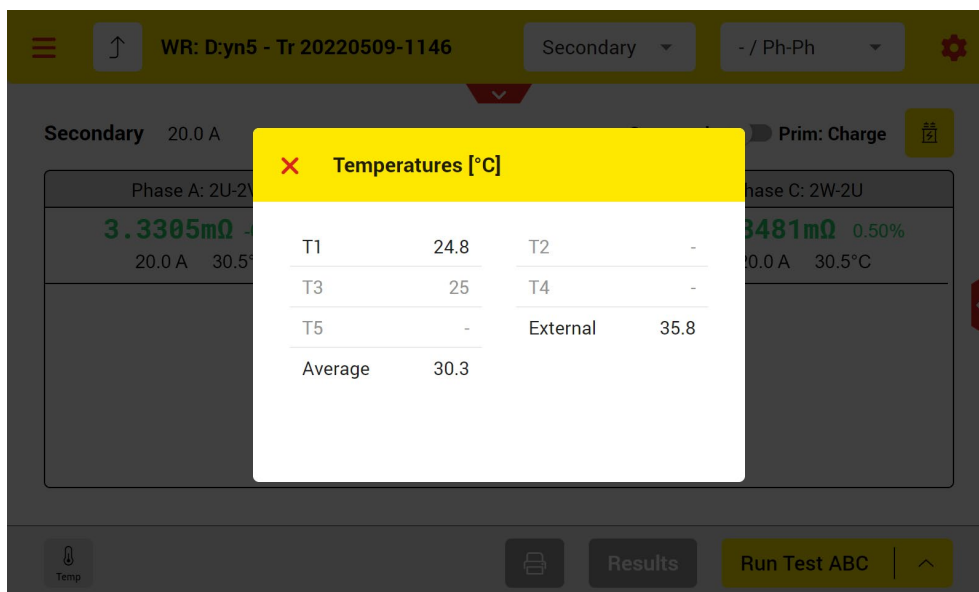

Figure 57: Actual Temperature values
- 16 To see the actual measurement value of each temperature measurement channel (See Figure 57)
In the live temperatures window (Figure 57) which can be opened from the bottom-left corner of measuring screen, you can see the actual temperature values. Here T1 is plugged-in and also activated in the setting. T3 is not activated but plugged in. If a temperature channel is activated but not plugged-in, the mini-ATOS will display an error message after starting the measurement.